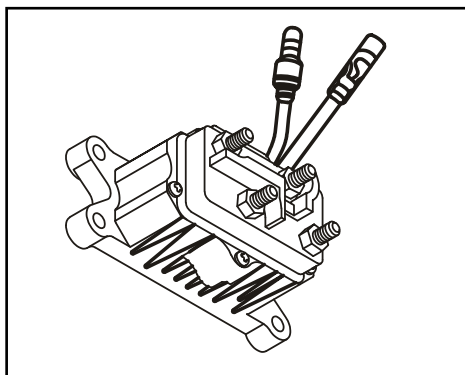

Figure 2: ATV/UTV Control Box
Step 2 - Mount the Control Box (Figure 2)